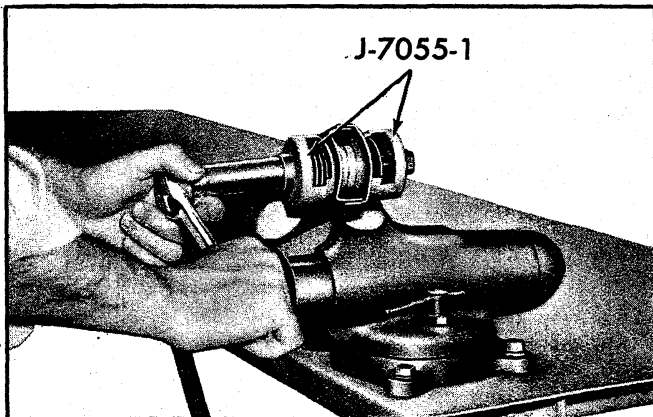

Fig. 66—Installing Bushings (Corvette)
5. Install Tool J-7055-1 as shown in Figure 66 and press bushings into place.